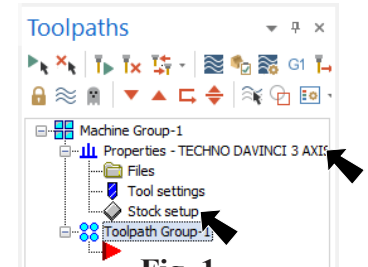

Fig. 1
Fig. 1 on the Machine tab , click Mill  > **Default** from the menu.
Step 4. Expand **Properties** (click +) in Toolpaths Manager and click **Stock setup** in Toolpaths Manager, **Fig. 1**.